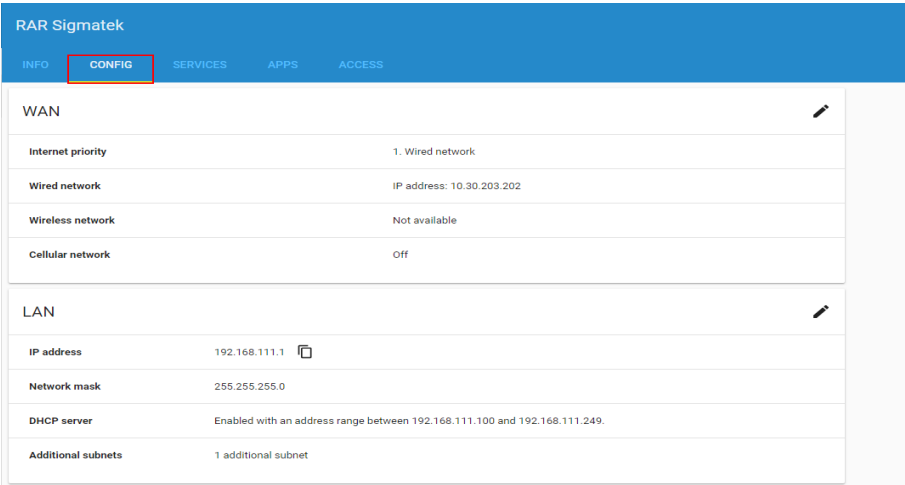

Figure 5.47 Open the Device config page.
1. On the RAP go to "CONFIG" (Figure 5.47).